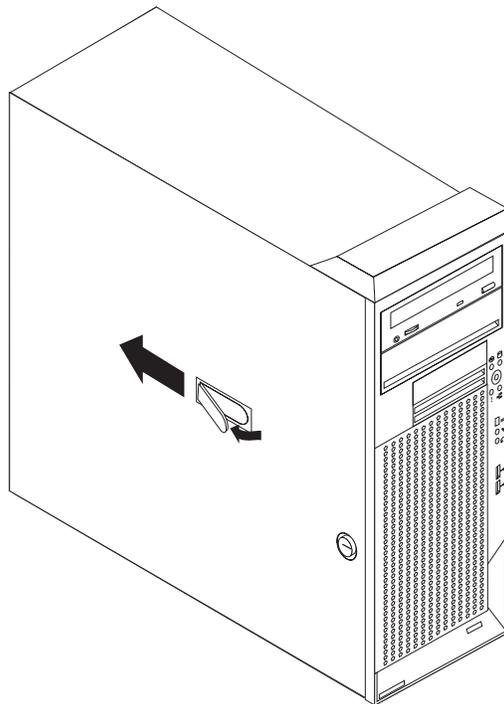

Figure 6. Removing the side cover
4. Pull the cover-release latch away from the computer, and push the cover toward the rear of the computer (see Figure 6). Lift the side cover off the computer and set it aside.